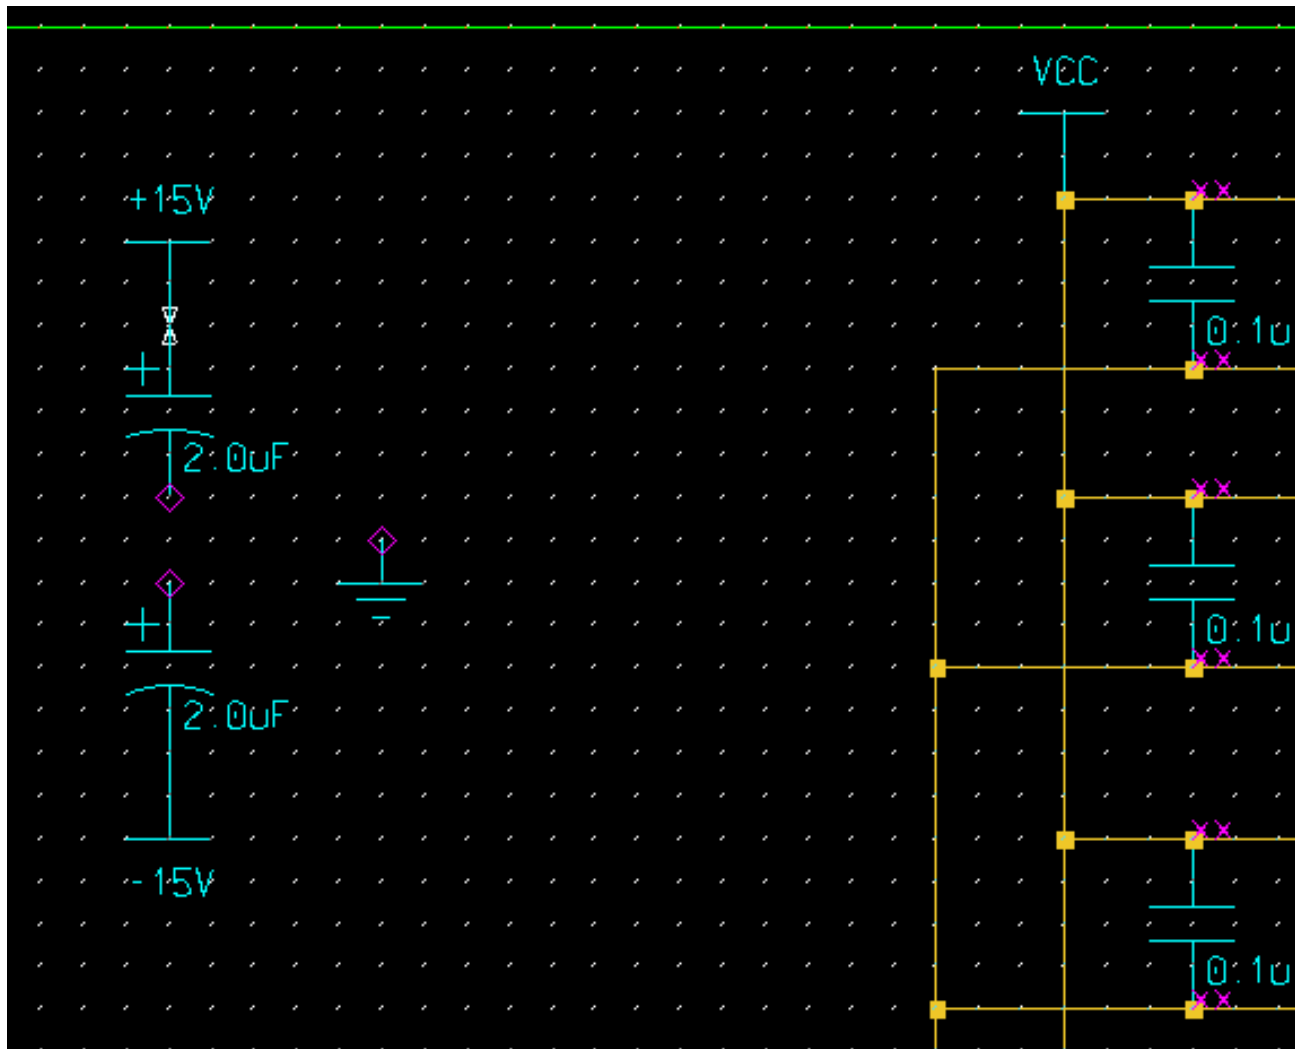

Figure 2-23. Placing Symbols on Sheet2
Use Figure 2-23 as a placement guide for adding symbols in the following steps.
10. Choose the **[Instance] Rotate/Flip > Flip > Vertical** popup menu item. If the placement is not correct, as shown in Figure 2-23, click on the **Palette > Move** button. When the Move prompt bar is displayed, move the ghost image of the component to its proper place and click the Select mouse button.
14. Place the capacitor so that its upper pin touches the lower pin on the **pwr_15** symbol, as shown in Figure 2-23.
20. Drag the ghost image five grid points to the right of the capacitors and click the Select mouse button to place the symbol, as shown in Figure 2-23.